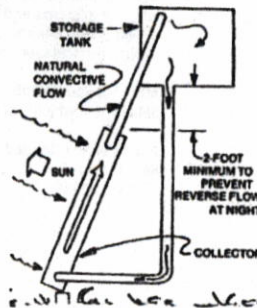

Fig. 6: Position the storage tank above the collector to prevent nighttime reverse flow.
2. The thermosiphon system is another solar water heating method (Fig. 6). Sunlight strikes tubes and fins inside a collector box through which water or glycol is circulating. The inlet and outlet of the collector are plumbed, respectively, to the inlet and outlet of the storage tank. If we were talking about electricity and polarity, we'd say the collector is in parallel with the storage tank. Still, it forms a loop. The heated fluid moves from the collector to the storage tank and back to the collector through a process called thermosiphon. This is a natural convective action. If you plumbed this as an open system, the storage tank could be your own water heater.
The easiest way to avoid this is by positioning the bottom of the tank above the top of the collector (Fig. 6). This is a physics trick that will prevent reverse flow. Sometimes it's